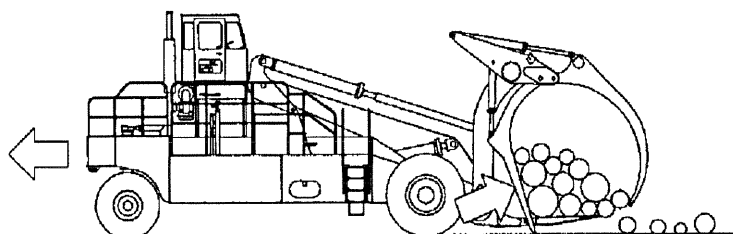

Fig 4-9
2. While backing the machine, slowly open the holddown arms and gradually push the load forward with the kickoff arms. This way, the logs can be dropped individually rather than all at once. See Fig. 4-9